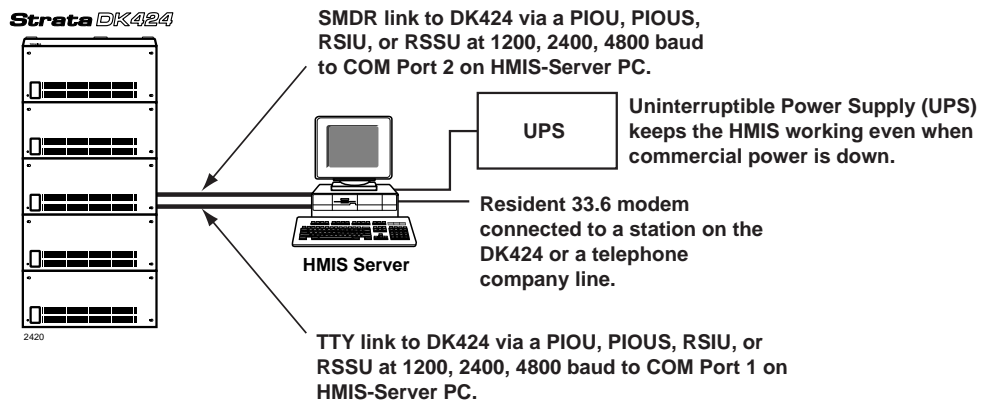

Figure 53 HMIS Server PC
- ♦ An HMIS server acting as a single front desk terminal (see Figure 53 below).